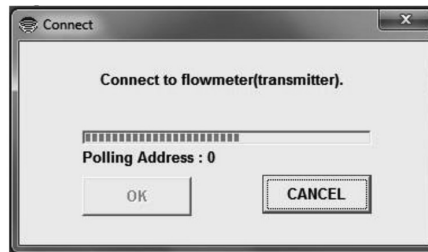

Fig.10
- ⑦ Click "OK" after specifying the polling address. A message box (Fig.10) appears, and the connection begins. While communicating,  $\bigcirc-\bigcirc$  on the upper right corner of the screen will be blinking.